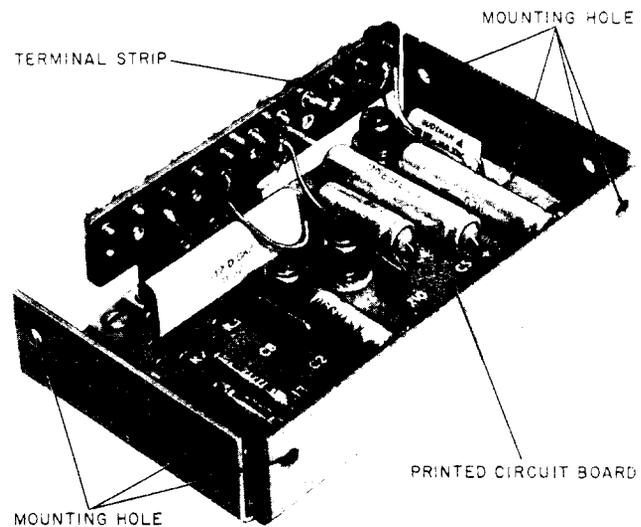

Fig. 1—236A Amplifier
2.01 The 236A amplifier (Fig. 1) consists of a printed circuit transistorized unit mounted on a metal base. A terminal strip with eleven screw-type terminals permits interconnections between the amplifier and other components with which it is associated.